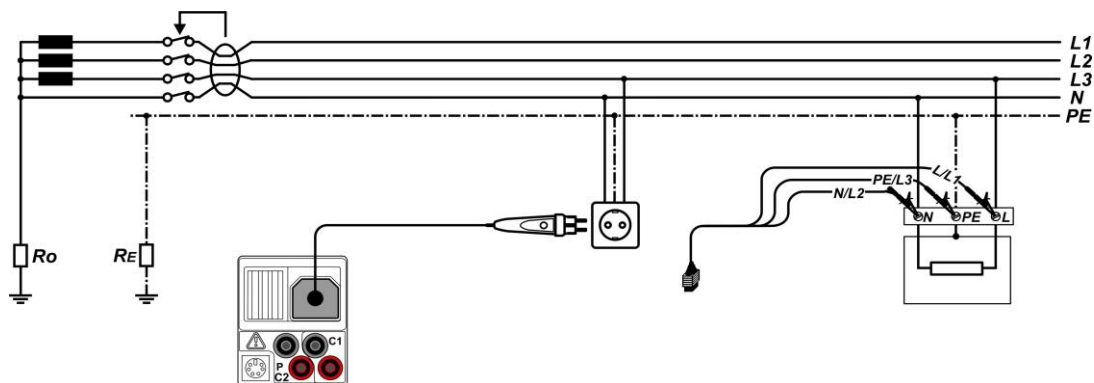

Figure 5.17: Connecting the plug commander and the 3-wire test lead
- ❑ **Connect** test leads to the item to be tested (see *figure 5.17*).
- ❑ **Connect** test leads to the item to be tested (see figure 5.17).
<ul style="list-style-type: none"> ❑ Select the RCD function using the function selector keys. ❑ Set sub-function AUTO. ❑ Set test parameters (if necessary). ❑ Connect test cable to the instrument. ❑ Connect test leads to the item to be tested (see figure 5.17). ❑ Press the TEST key to perform the test. 	Start of test